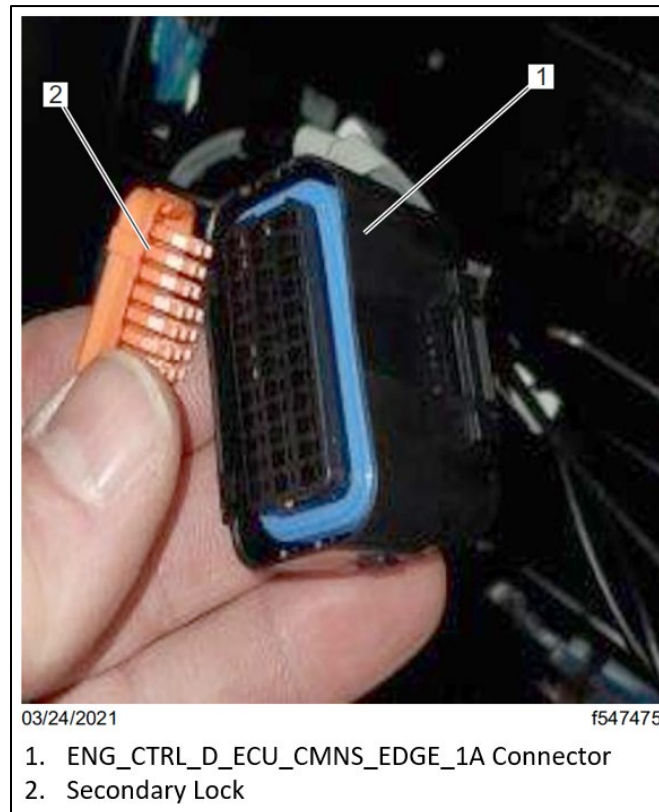

Fig. 8, ENG_CTRL_D_ECU_CMNS_EDGE_1A Connector
13.1 Using Delphi tool DKIOCHA17002-1, or a small screwdriver, or any similar tool, remove the orange secondary lock. See Fig. 8.
13.3 Install the orange secondary lock. See Fig. 8.